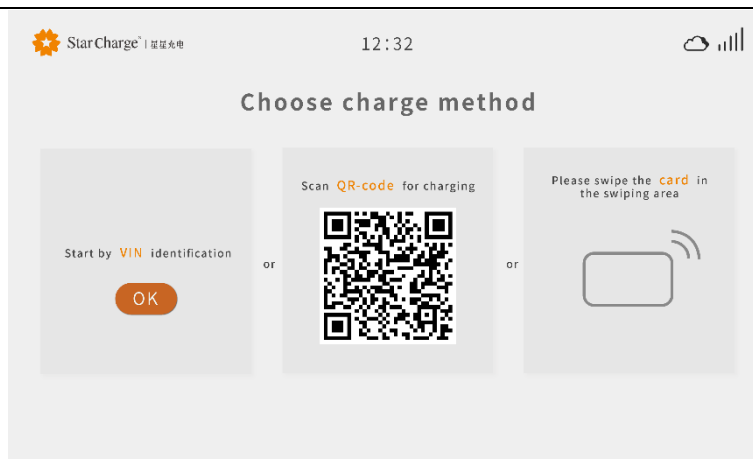

Figure 3-2 Charging method selection
Step 2 Enter the charging mode selection interface, please select the card swiping mode, as shown in Figure 3-2.